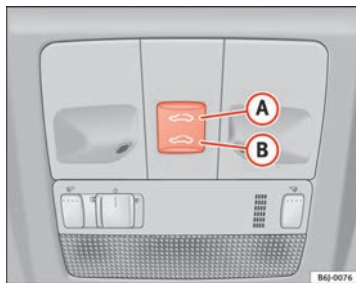

Fig. 52 Panorama/tilting sunroof
- Press and hold button **(B)** ⇒ fig. 52 ⇒ ⚠. The roof starts to close until the button is released.